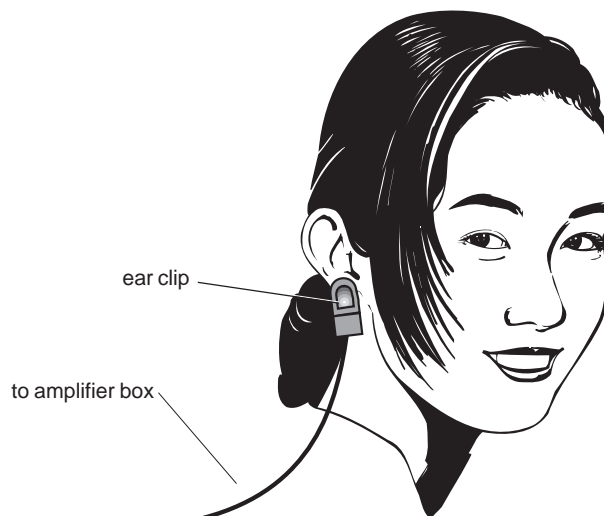

Figure 2
6. Clip the ear clip to your earlobe and adjust so it is firmly attached. Sit or stand quietly to avoid disturbing the ear clip (Figure 2).